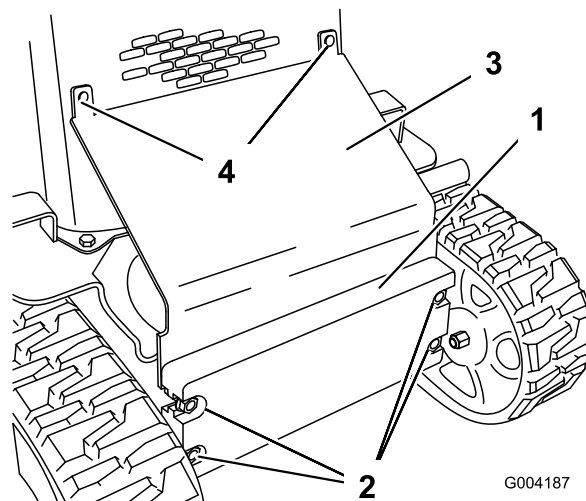

Figure 25
2. Loosen the bolts securing the front weight (Figure 25).
3. Remove the carriage bolts and nuts securing the heat shield (Figure 25).
10. Slide the heat shield between the frame and the front weight and secure it to the front screen grill using the carriage bolts and nuts removed previously (Figure 25).
11. Tighten the bolts securing the front weight (Figure 25).